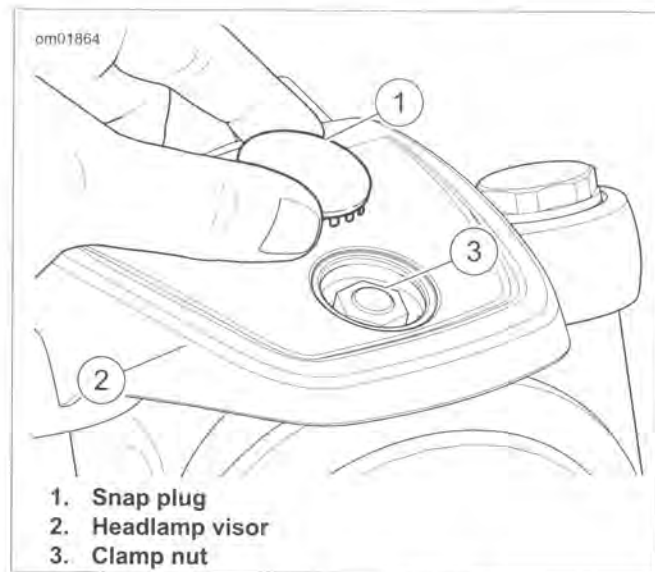

Figure 1-47. Headlamp: FXDL
1. See Figure 1-47. Remove snap plug (1) on top of visor (2).
2. See Figure 1-47. Loosen headlamp clamp nut (3).
5. Install snap plug (1) in headlamp visor (2).